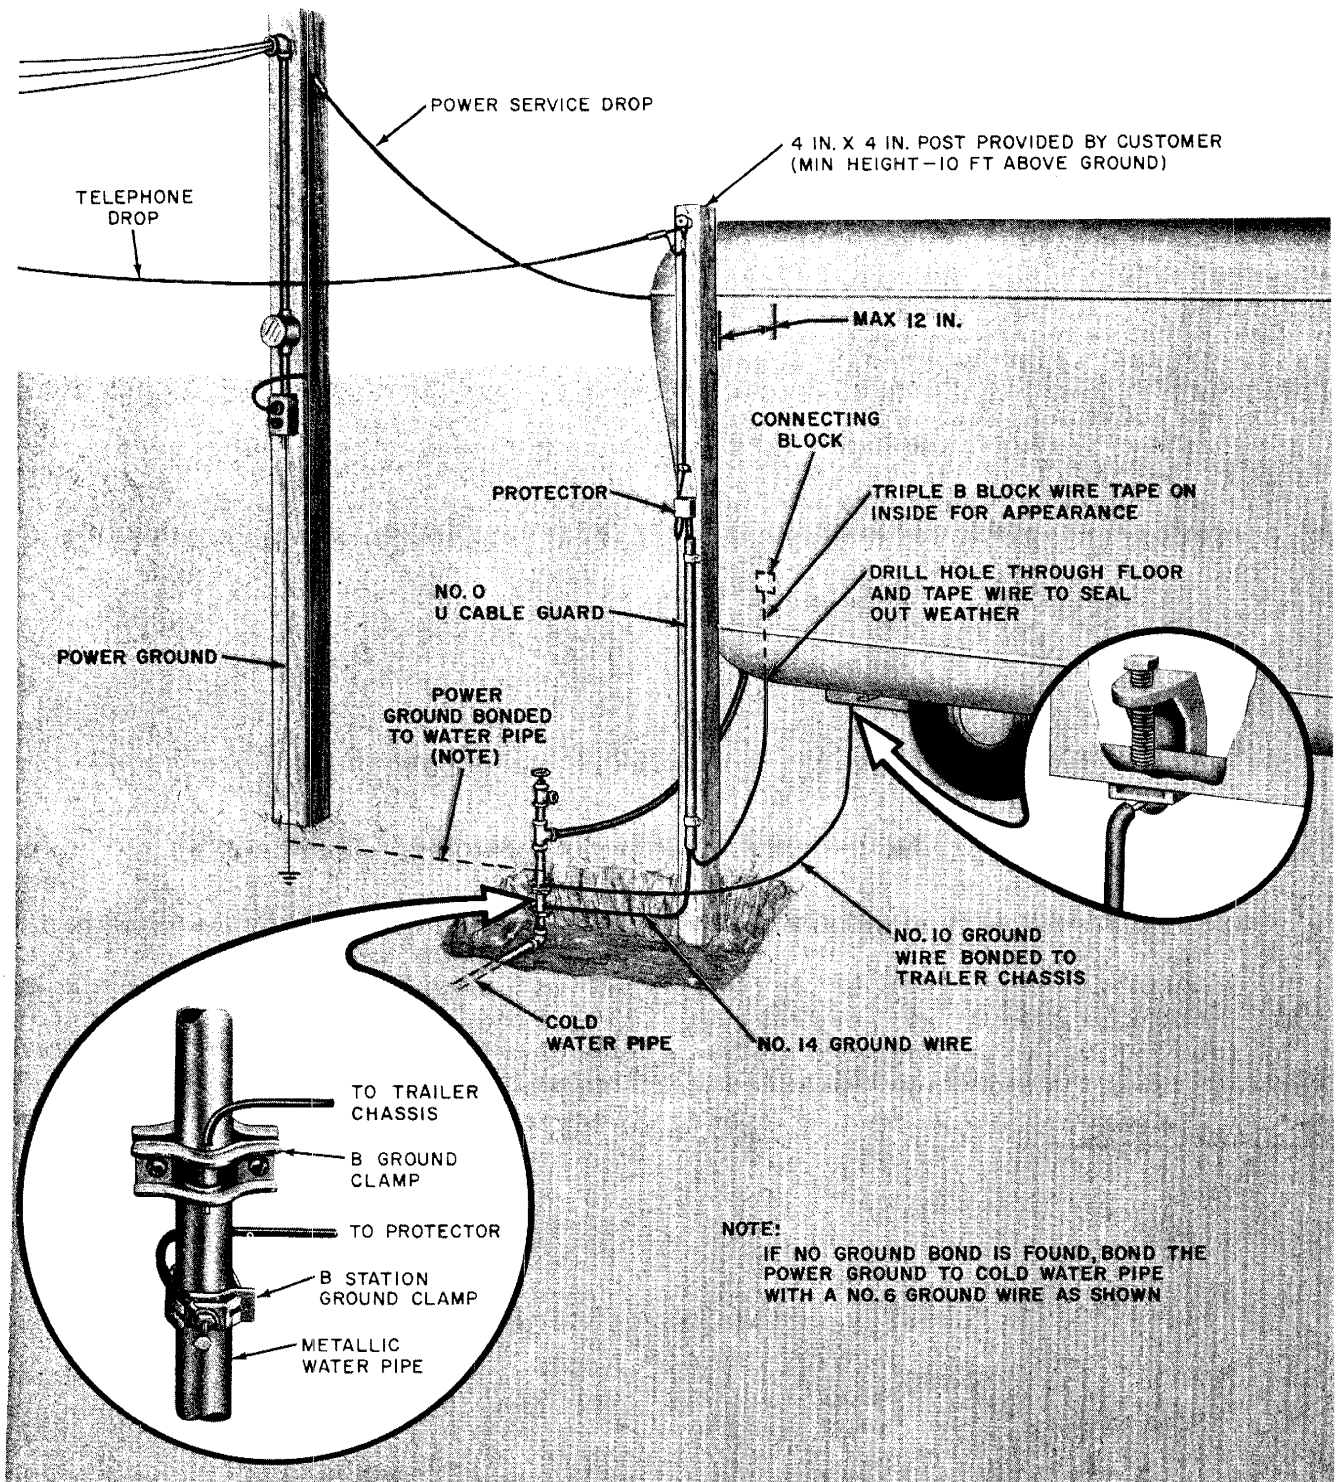

Fig. 3—Grounding Methods—Aerial Distribution
**4.01** Installations generally vary, depending on the type of facilities provided by the customer. Typical grounding arrangements are shown in Fig. 3 and 4.
4.03 Refer to Section 460-100-201 for selection and installation of protector grounds and wiring of protector. For a mobile home the best ground is the power ground system. Using a #14 ground wire, connect the protector to the power ground rod, ground wire, power service conduit, or a water pipe serving as a power ground. A typical installation of this type is shown in Fig. 3 and 4. If the power ground is not present or available, ground the protector to a driven ground